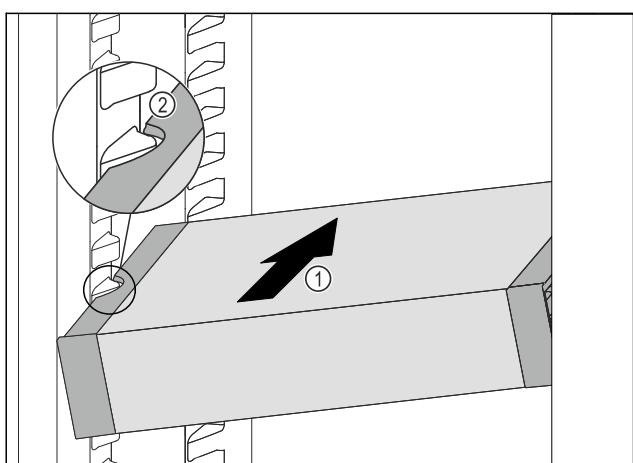

Fig. 127
- Insert the VarioSafe into the fridge section at an angle *Fig. 127 (1)* until the recesses in the side *Fig. 127 (2)* of the VarioSafe are at the level of the support rib in the fridge section.